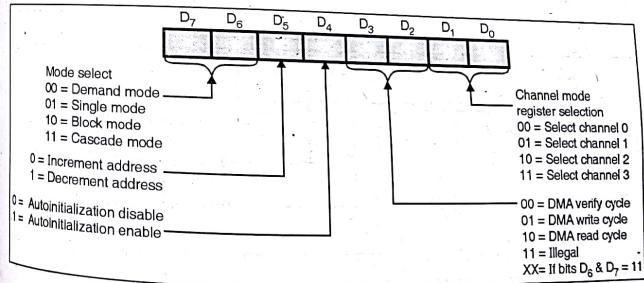

Fig. 17.5.5 : Mode register
(6) Mode register
- All registers are cleared by reset signal. The format of mode register is as shown in Fig. 17.5.5.